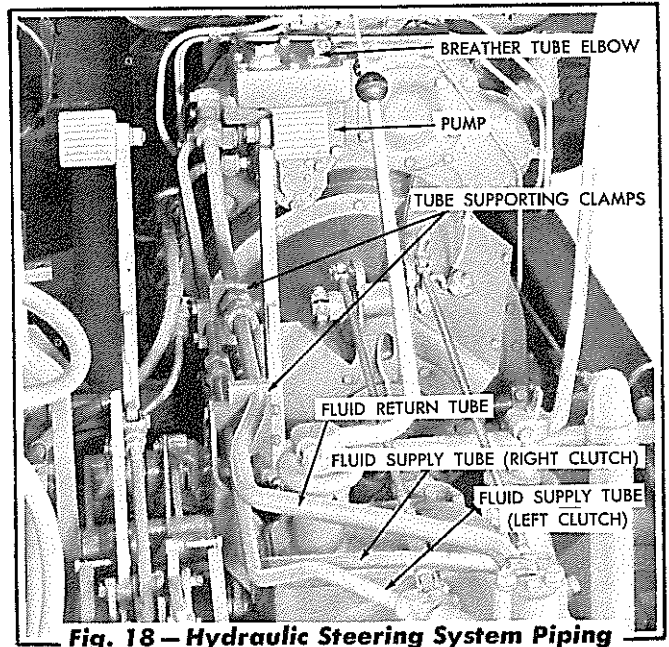

Fig. 18 — Hydraulic Steering System Piping
The hydraulic system piping consists of two (2) fluid supply tubes to deliver the oil from the pump discharge passages to the control pistons located in the control housing, and one (1) fluid return tube to return the oil from the control housing back to the hydraulic pump adapter. Each fluid supply tube and the fluid return tube are made in two (2) sections (front and rear) for ease of assembly and disassembly. The fluid supply tubes and the fluid return tubes are supported by two (2) clamp supporting brackets and clamps. One of the brackets is attached to the rear of the engine clutch housing and the other is attached to the left front corner of the transmission case (refer to Fig. 18).